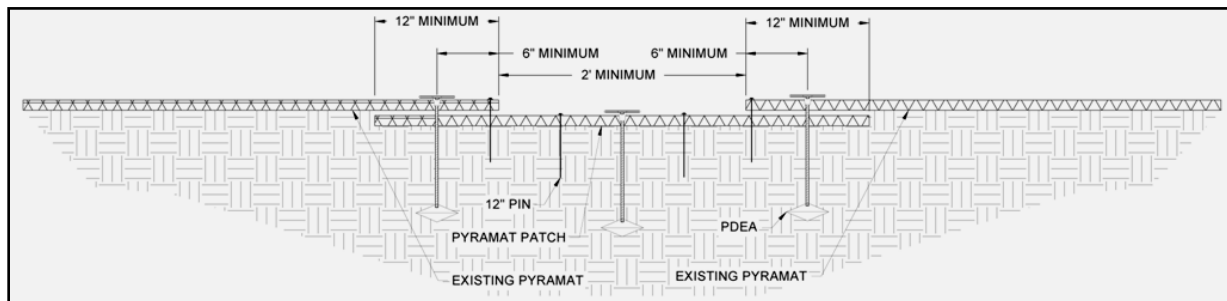
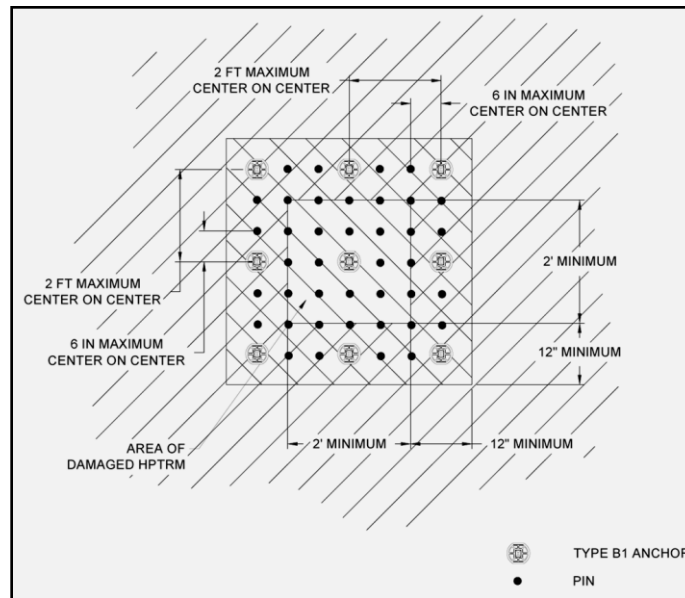

Figure 30: ArmorMax Patch Cross Section
Figure 31: ArmorMax Patch Plan View
- A. *Acceptable (A)* - The rated area is in satisfactory, acceptable condition, and will function as designed and intended during the rain event. ArmorMax has no exposed edges, is installed tightly by maintaining direct contact to the channel surface with no rilling beneath, and has over 90% vegetation cover. There is no noticeable damage present.
- B. *Minimally Acceptable (M)* - The rated area has a minor deficiency that needs to be corrected. The minor deficiency will not seriously impair the functioning of the area during the next rain event; however, the overall reliability of the project will be lowered because of the minor deficiency. ArmorMax has 75% vegetation cover with un-vegetated patches as large as one square yard. Edges of ArmorMax are exposed with noticeable damage. Minimal erosion has occurred underneath ArmorMax.
- C. *Unacceptable (U)* - The rated area is unsatisfactory. The deficiency is so serious that the area will not adequately function in the next rain event. ArmorMax has been physically torn, ripped, or lifted from the channel surface. Less than 75% vegetation cover is present with un-vegetated patches being greater than 1 square yard, and there is evidence that erosion is occurring beneath ArmorMax.
3. To repair ArmorMax, cut out and remove damaged areas in a square configuration a minimum size of 2 ft by 2 ft. Remove all vegetation and debris atop of ArmorMax. Loosen the top 1 to 2 in of soil in the patch area then seed. The subgrade of area to be patched shall be prepared to be smooth and uniform and transition smoothly into the in-situ area. Cut a square Pyramat patch a minimum of 12 in greater than the damaged area for all four sides of the patch. Overlap the patch area in all directions a minimum of 12 in. The patch overlaps shall be tucked under the existing damaged Pyramat material (Figure 30 and Figure 31).